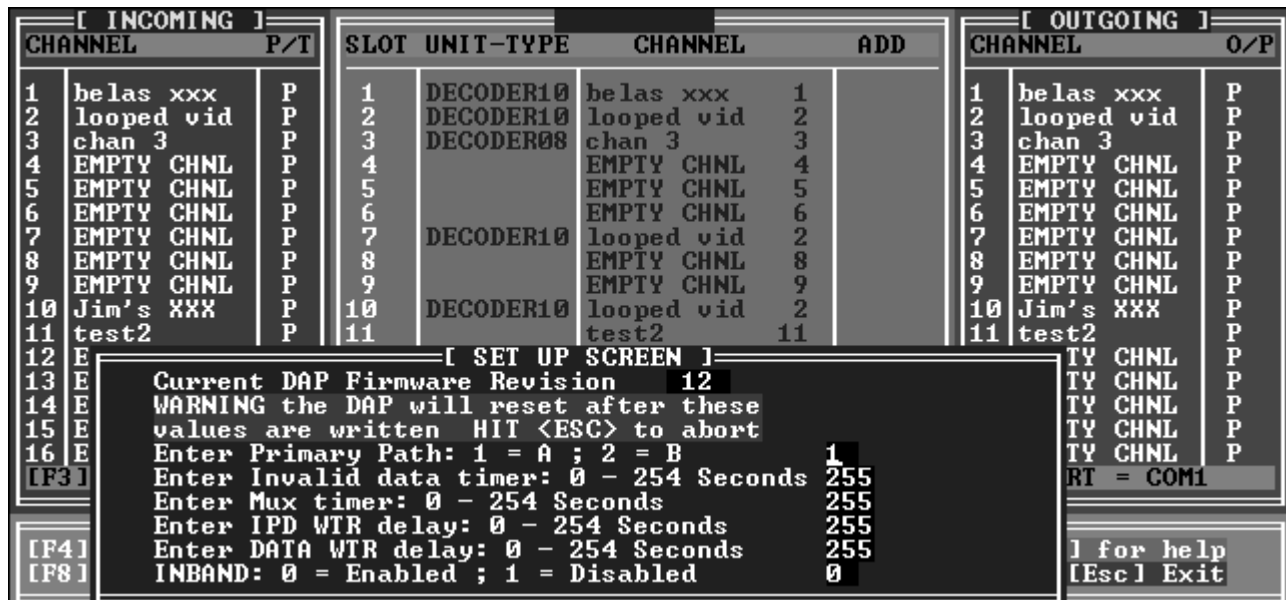

Figure DLP9-1. DAP Control Screen with "Set Up Screen" Dialog Box Opened
1. At the *DAP Control Software* Main Menu screen, press **F8**. The Set Up Screen is displayed over the *DAP Control Software* Main Menu screen, as shown in Figure DLP9-1.